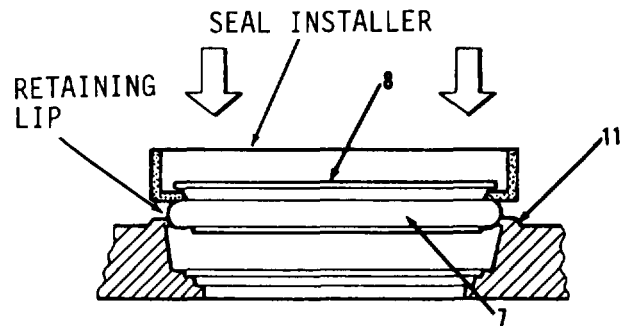
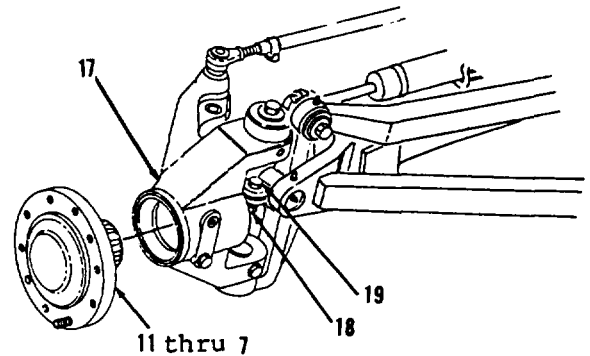

Figure 5-94.
Figure 5-85.
18. Position seal (8) and ring (7) in spindle (11, Figure 5-94). With ring (7) still wet, use seal installer to position seal (8) and ring (7) squarely against spindle (11).
19. Install seal (8) and ring (7). With sudden and even pressure on the seal installer push to seat ring (7) under retaining lip of spindle (11).
20. Adjust seal (8) and ring (7), if necessary, using seal installer.
21. Inspect ring (7) for twists or bulges. Incorrect installation will result in seal failure. If incorrect installation is obvious, repeat step 16.
22. Clean seal (8) mating surface with a lint free cloth. If any dirt particles remain on seal face, seal (8) will leak.
23. Lubricate mating surface of seal (8) with gear lubricant.
24. Loosen bolt (18) and nut (19, Figure 5-85).
25. Install items 11 thru 7 as an assembly in housing (17).